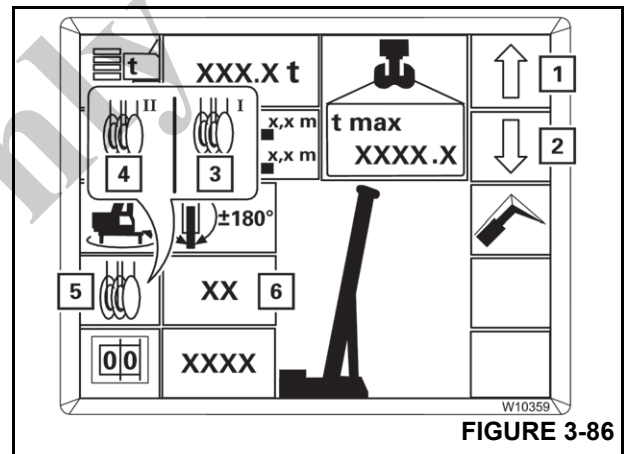

FIGURE 3-86
1. Press the button (5) (Figure 3-86) repeatedly until the symbol for the hoist with which you want to lift the load has turned green:
- (3) Symbol for main hoist
- (4) Symbol for auxiliary hoist